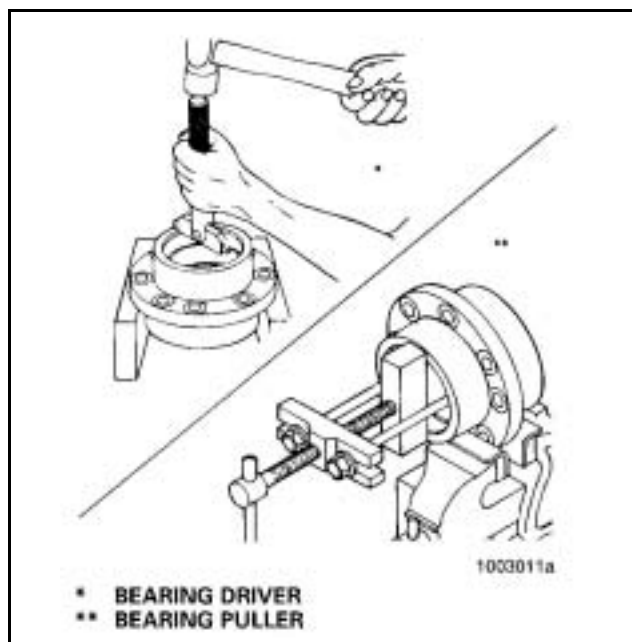

Figure 29
6. If the pinion bears need to be replaced, remove the inner and outer bearing cups from the inside of cage. Use a press and sleeve, bearing puller or a small drift hammer. The type of tool used depends on the design of the bearing cage. **Figure 29.** When a press is used,